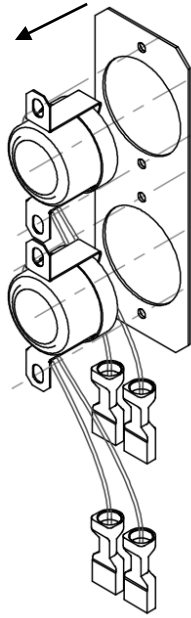

FIGURE 24
5. Pass the Temperature Switch wires through the T-Stat Mount and align the holes. See Figure 24.